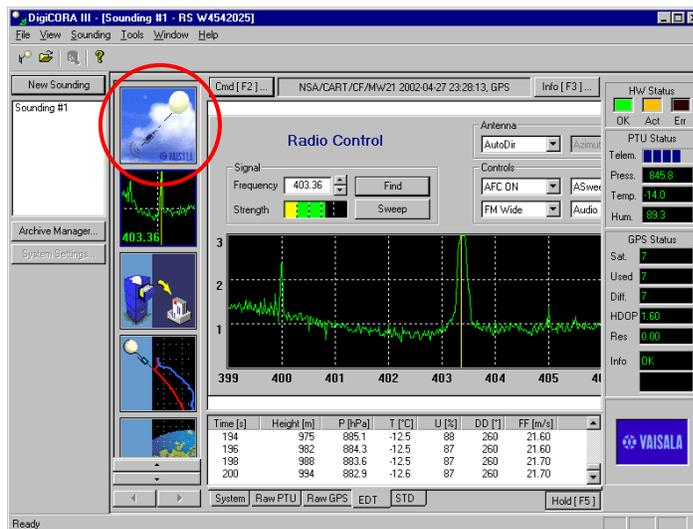

Figure 11
- 12) Once the system has found the radiosonde, click on the top left icon (see Figure 11) to get back to the main control screen.